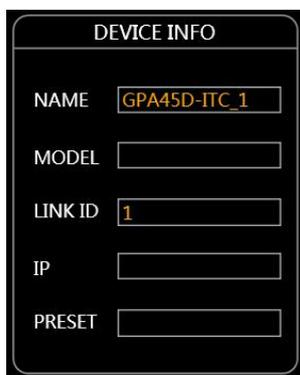

Figure 6.3
- ② Click [REDACTED], you can make the connected device display and status light flash, and you can quickly find your connected devices from the "Amplifier Device Pile".
- ③ Real-time display of the power supply status [REDACTED], AC-V is the mains supply voltage, and AC-C is the mains current.
- ④ Click [REDACTED] in the box to quickly switch the routing status. There are two options: bridge and matrix.
① As shown in Figure 6.3, the device name and IP are displayed, which can be modified in the device management modification.